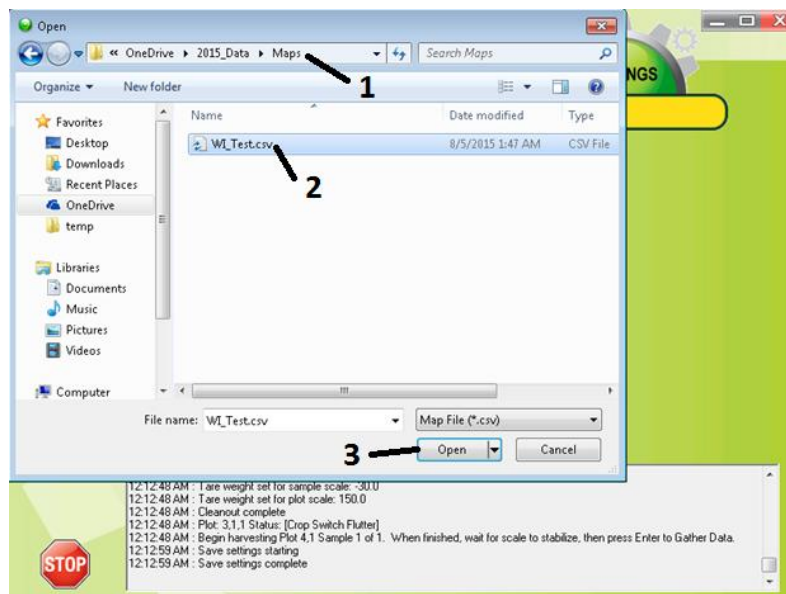

Figure 57. Import Map Function
- c. Locate the map file (CSV) to import. See Figure 57.